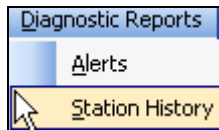

Figure 21.0.1
1. From the toolbar at the top of the screen select **Diagnostic Reports** then scroll down to **Station History** and click on it (Figure 21.0.1).